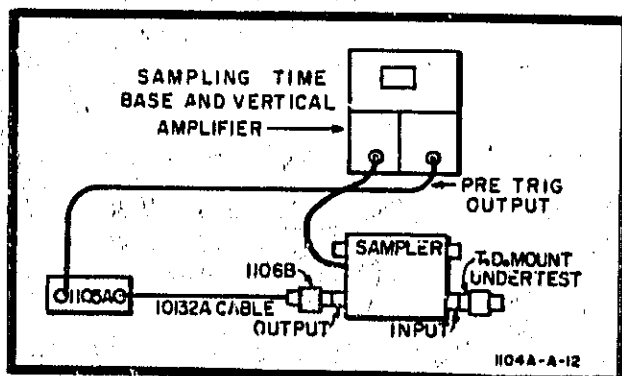

Figure 6. TDR Reflection Measurement
18. Connect the equipment as shown in Figure 6. The reflection from the T. D. Mount under test should be less than 10% using a 40 ps TDR system. The HP Sampling System listed in Table 3 forms a 40 ps TDR system as specified. Disconnect all equipment.